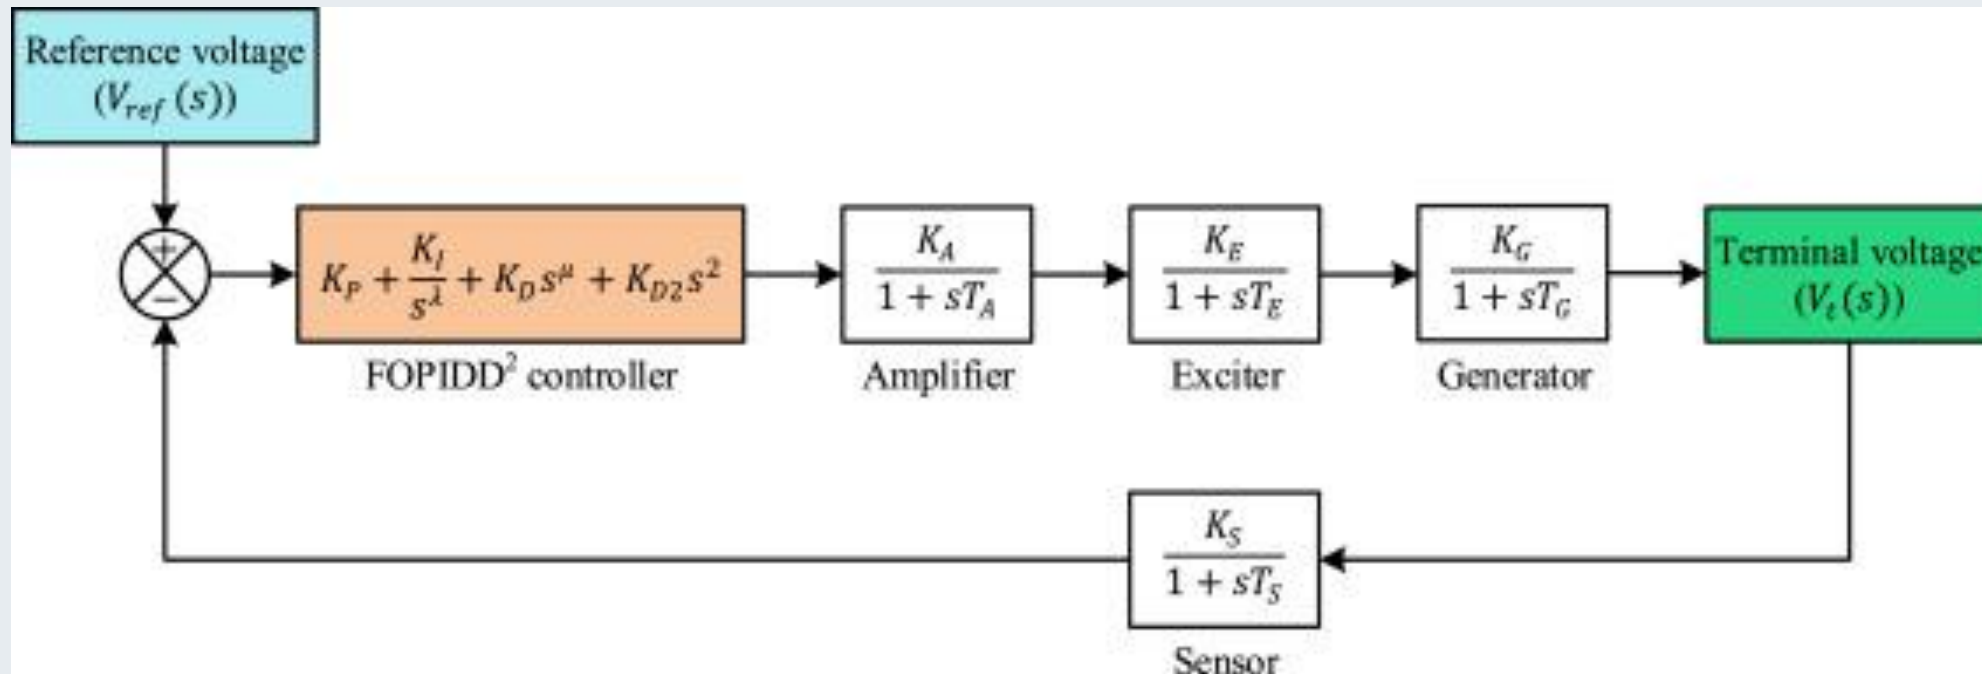

Figure 10. The AVR control with PID control system.
- The error can be further reduced using PID controller with tunings as presented in Fig.10[3].